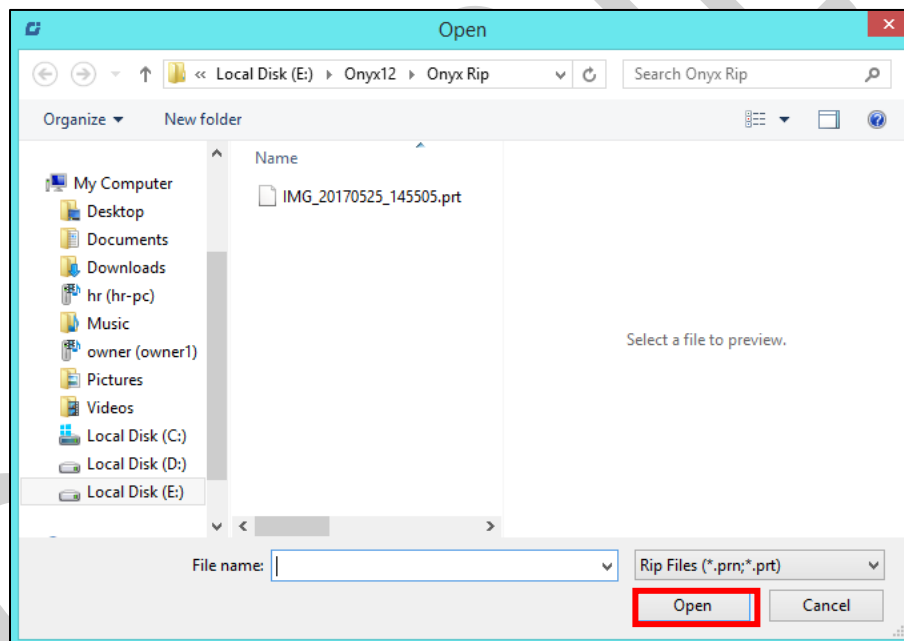

Fig 54: Adding the Job
Step 2: Navigate to the location where the image file with extension **".prt"** and **".prn"** is stored (Refer to Fig 54).